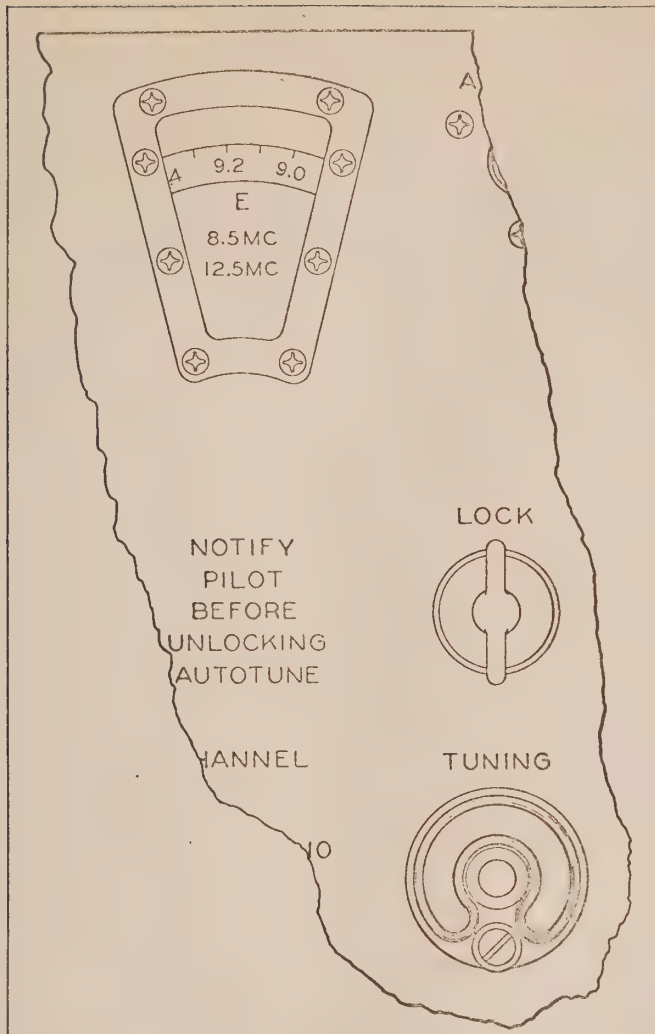

Figure 2-9. Frequency Indicator and Main Tuning Dial Details
(5) TUNING CONTROL. (Refer to figure 2-9.) — The r-f coupling, r-f amplifier plate tank, high-frequency oscillator grid and plate tank, and frequency multiplier plate tank circuits of this receiver are all tuned by varying the inductance of the circuits. The TUNING control, which is associated with the AUTOTUNE Multiturn Unit, operates a mechanism that controls the inductance in these circuits by determining the positions of slugs within the inductors. The control may be manually operated if the stop rings are unlocked. The control may be unlocked by rotating the locking key in a counter-clockwise direction.